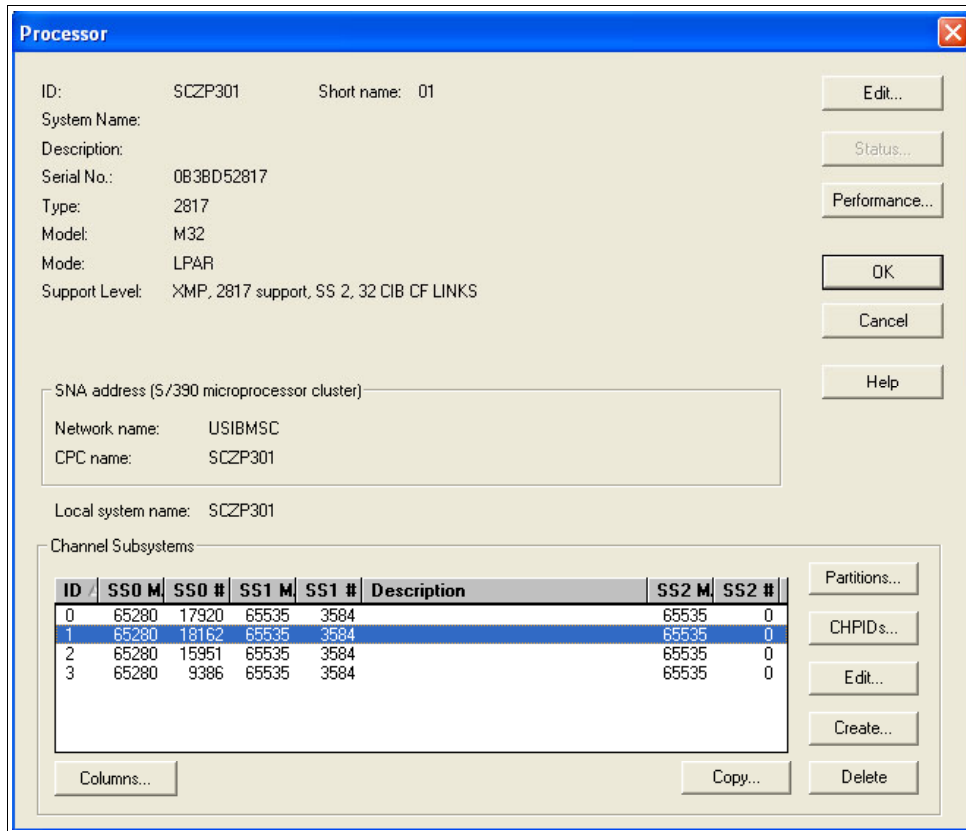

Figure 7-15 HCM Edit Processor
4. Double-click the top pane of the processor display to edit the processor, or select **Edit** → **Processor**, and select the processor from the list. Refer to Figure 7-15 on page 210.